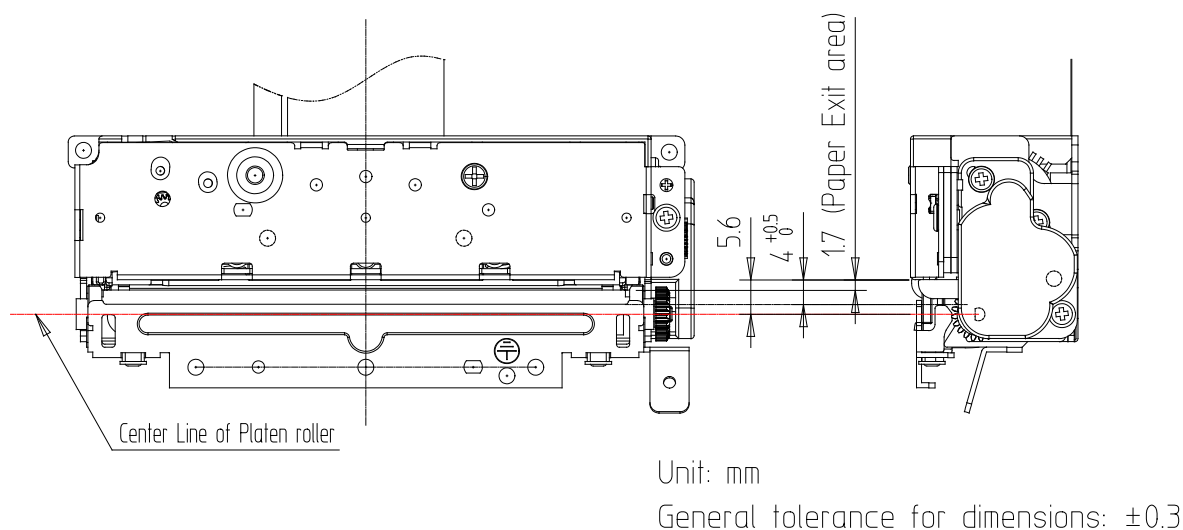

Fig 11-1 Dimensions related to the paper exit
- Secure enough space so that paper exit is free from external force during printing. Among the dimensions shown in Fig 11-1, especially incorrect dimension about $4^{+0.5}_0$ may cause problems such as shortening the life of cutter or paper jam, therefore design the system with the correct dimensions. Check performance by actually using the device.